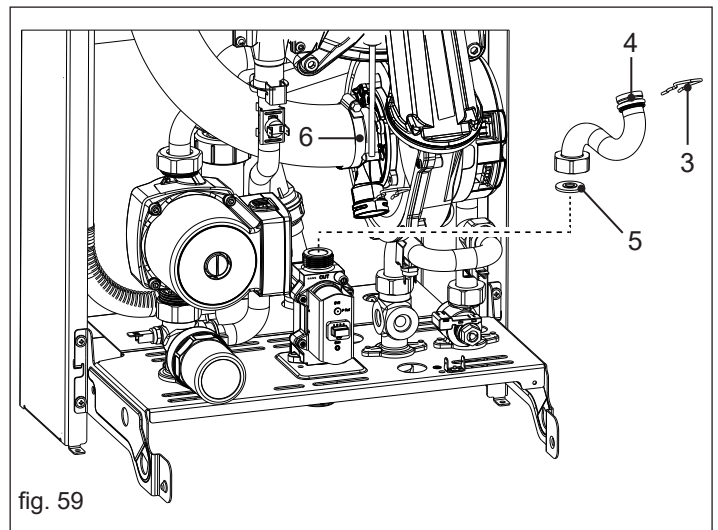
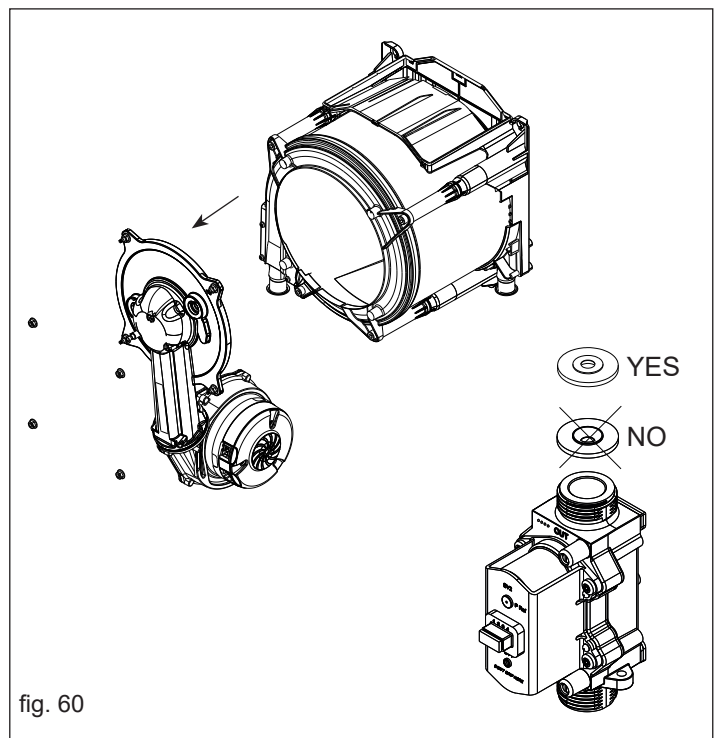

fig. 59
fig. 60
- Disconnect the fan electrical connectors (2-fig. 59)
- Remove the clip (3-fig. 59), loosen the nut and remove the gas pipe (4-fig. 59)
CAUTION: Pay attention to the position of the gas orifice (5-fig. 59).
- Loosen the gear clamp of the intake air pipe on the mixer (6-fig. 59) and remove the intake air pipe from the mixer
- Remove the nuts securing the door to the exchanger and remove the door (fig. 60)
- Reassemble the components in reverse order making sure that the radiused part of the nozzle is positioned towards the valve (fig. 60).
- Remove the screws (A) and loose the other two (B) that secure the fan to the door
- Reassemble the components in reverse order making sure that the radiused part of the nozzle is positioned towards the valve (fig. 60)
- Reassemble the components in reverse order making sure that orifice is in the correct position (see fig. 60).